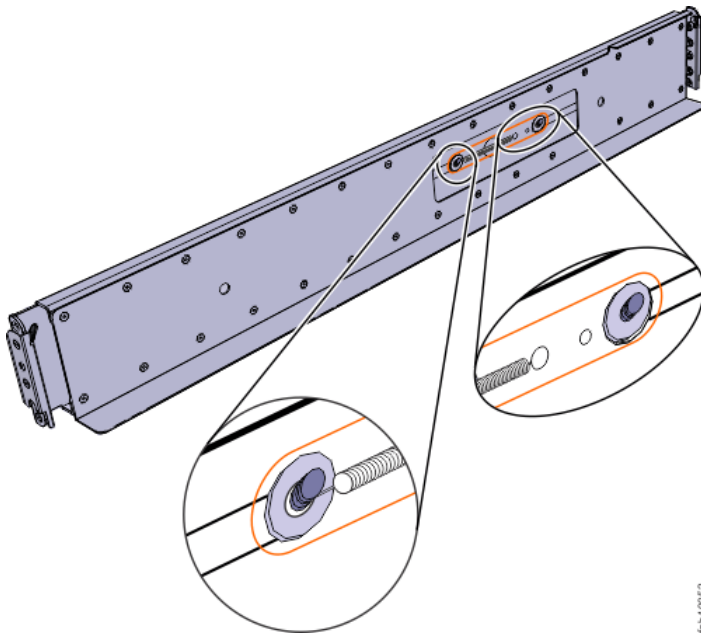

Figure 29. Installing the rail spring
- b) Push one looped end of a spring over one stud on the inside of the rail. (See Figure 29 on page 70.)